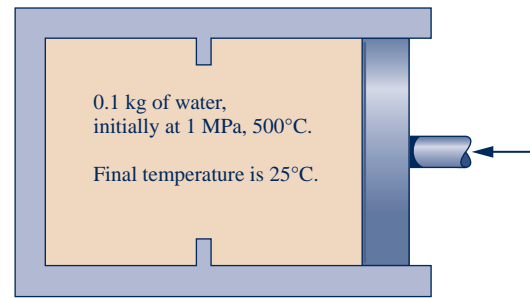

Fig. P3.75
3.75 As shown in Fig. P3.75, a piston–cylinder assembly fitted with stops contains 0.1 kg of water, initially at 1 MPa, 500°C. The water undergoes two processes in series: